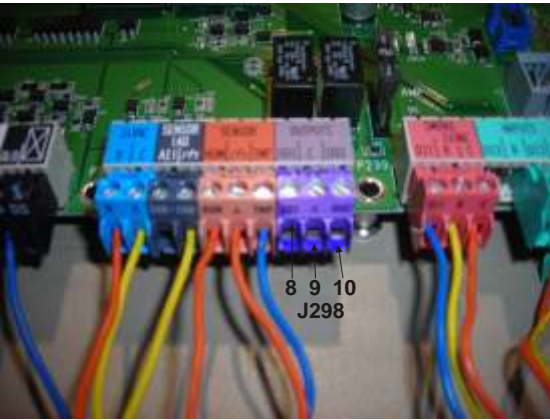

Figure 5
- E. Route wire through the control section down to the IMC2 Control board. Strip the wire ends 3/8" if they have not been pre-done. Place the Green wire under screw terminal at J298-8 (Purple connector). Do the same routine for Pink at J298-10 and Black to J298-9. **See Figure 5.**